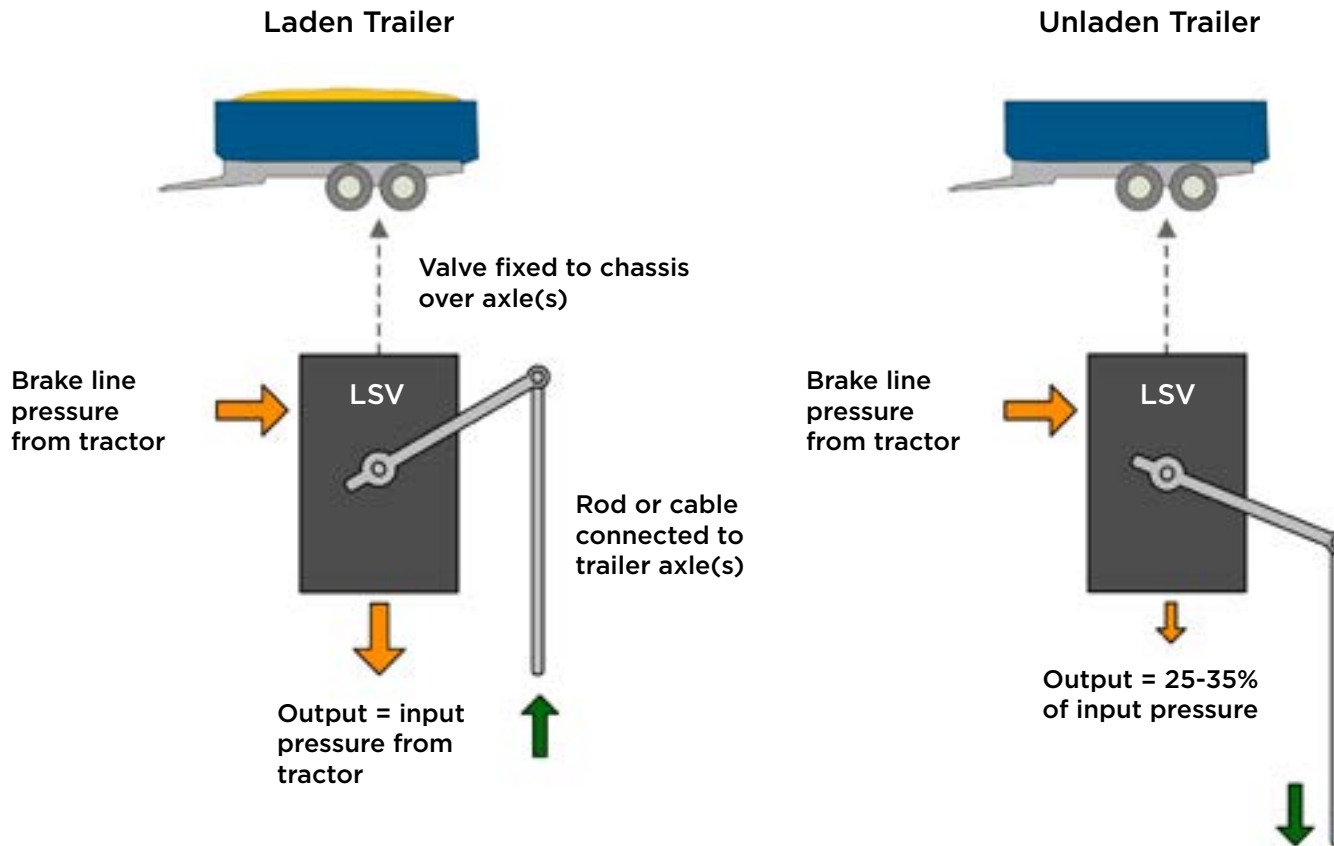

Fig.23 Load Sensing Valve (LSV) operation
- When unladen or part-laden, the LSV reduces the pressure passed to the brake actuators (see Fig.23). This reduces braking effort in line with the smaller payload, so the trailer still develops the **same braking efficiency as when fully laden**